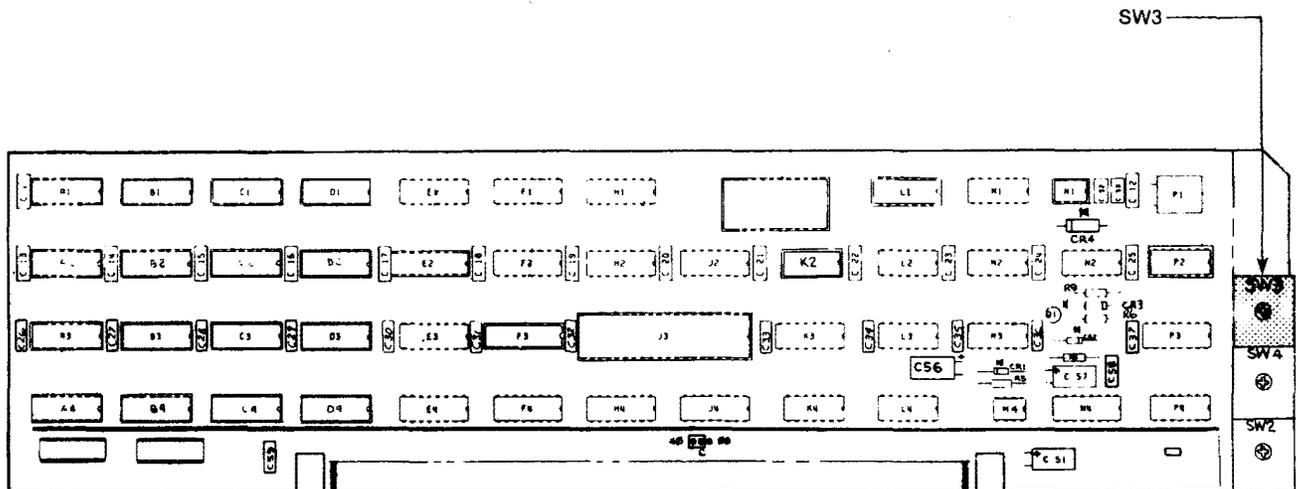

Fig. 4 — "SW3" Placement on the MP/RAM Board
- (h) Using the hardware provided in the option/update kit, part number 1030A5012, install the mini thumbwheel in the space marked "SW3" (Fig. 4) if not already installed.